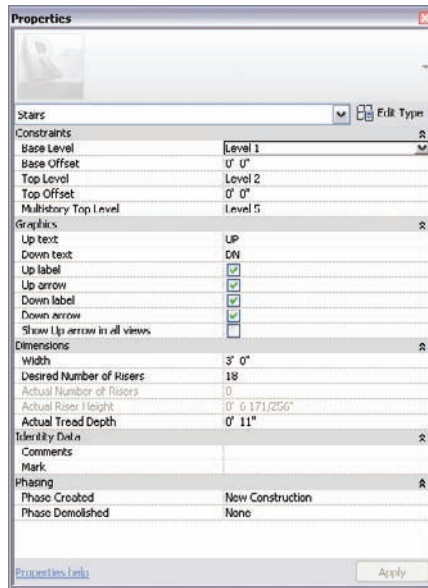

FIGURE 10.3 Changing the Element Properties of the stairs
7. Change Multistory Top Level to Level 5 (see Figure 10.3).